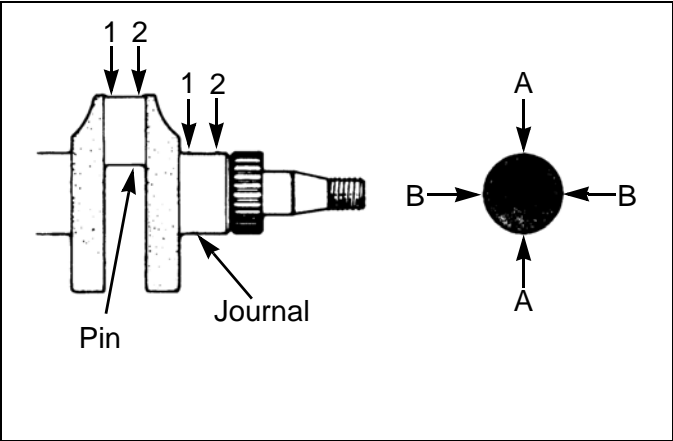

Fig. 3-29
- 3. Check the crankshaft journal and pin for damage, irregular wear (ellipticity, conicalness), and shaft diameter. If service limit is exceeded replace the bearing (bushing) and/or crankshaft. Measure the dimensions of the journal and pin in the AA and BB directions at positions 1 and 2 (Fig. 3-29) avoiding the oil holes.